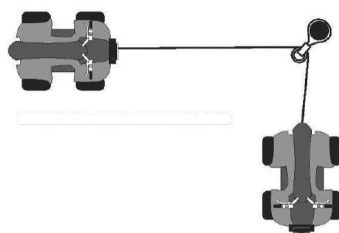

Fig. 9
- b. If the object to be pulled must be pulled at an angle in relation to the winch, use a pulley (not included) and an anchor point directly in front of the winch (Fig. 9).